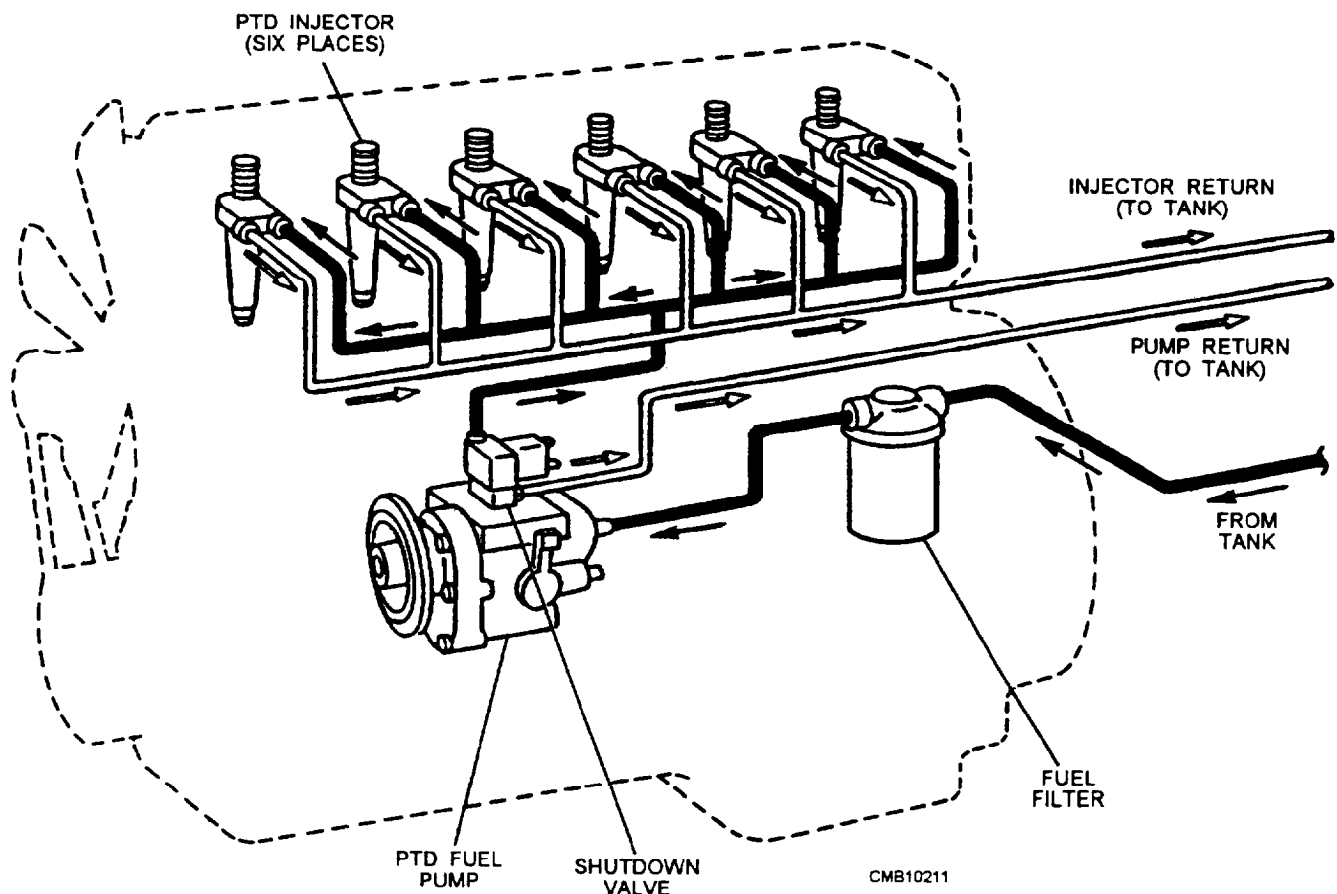

Figure 5-28.—Pressure-time fuel system.
The pressure-time (PT) fuel system (fig. 5-28) is exclusive to Cummins diesel engines; it uses injectors that meter and injects the fuel with this metering based